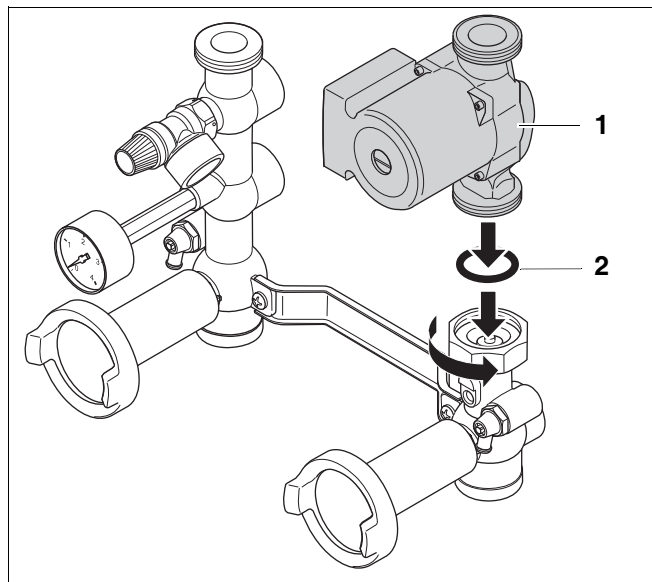

fig. 8 Fitting the pump
- Then fit back the flat rubber seal (fig. 8, **item 2**) and the pump (fig. 8, **item 1**).